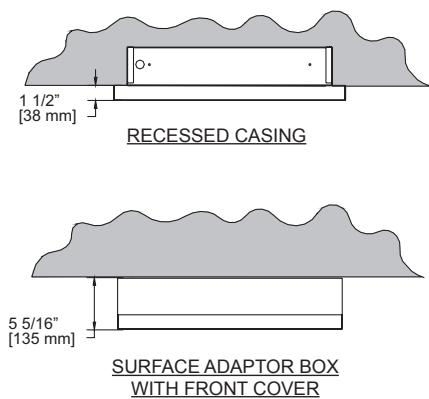

FIG. 9
7. Position the sleeve around the frame and secure it with four (4) screws (not provided) as shown in figure 9.